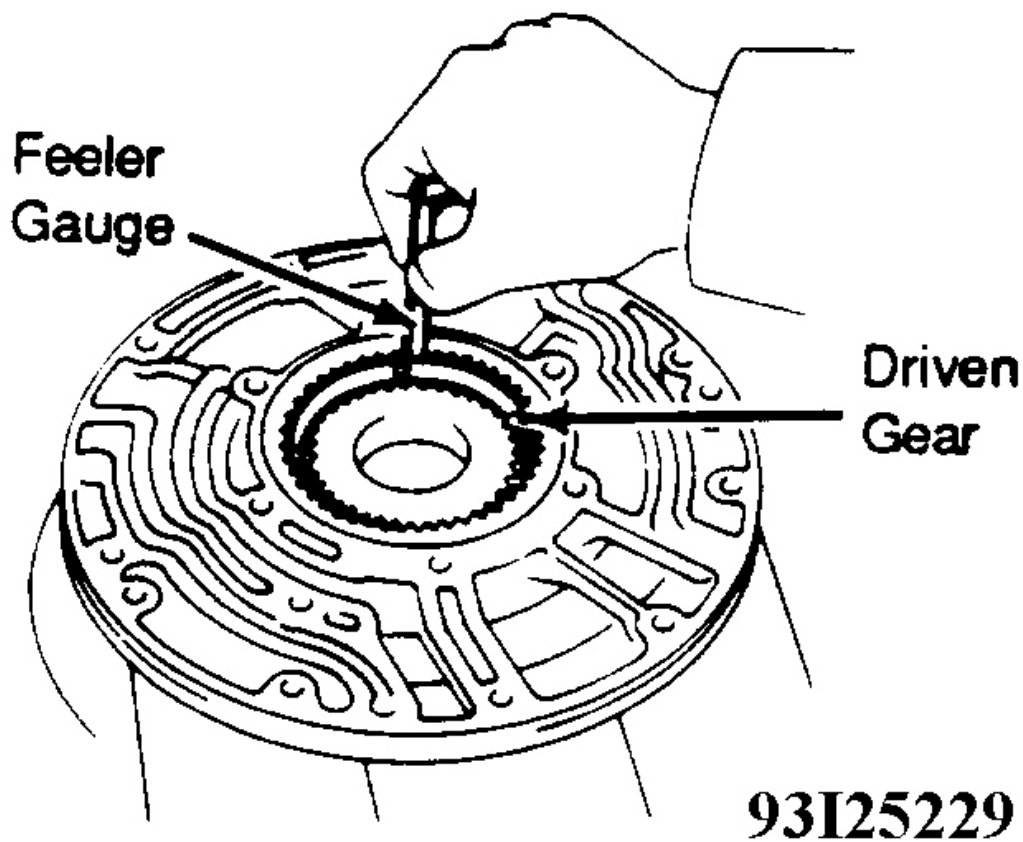

Fig. 16: Checking Driven Gear Tip Clearance
3. Using feeler gauge, measure tip clearance between both gears and crescent-shaped part of pump body. See **Fig. 16** . Replace drive gear, driven gear and pump housing if not within specification. See **OIL PUMP CLEARANCE SPECIFICATIONS** table.